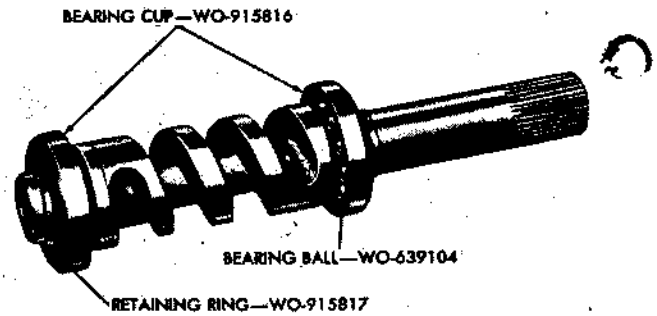

Figure 6. Cam thrust bearings.
d. *Remove Cam Thrust Bearings* (fig. 6). Use a screwdriver to remove the retaining rings securing the cam thrust bearings to the steering gear shaft. Remove the bearing cups from the shaft being careful not to lose the bearing balls. Discard the retaining rings.